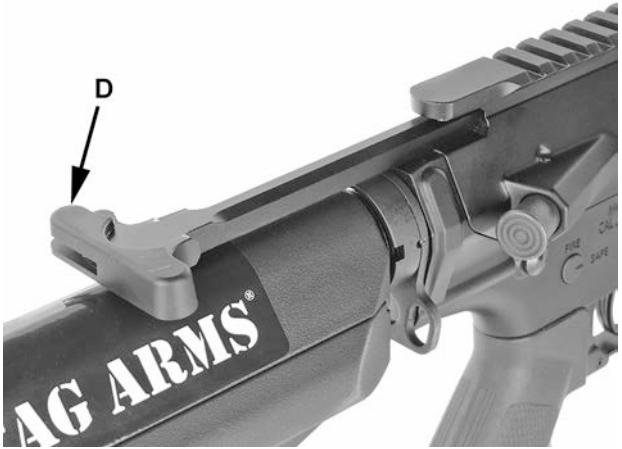

Figure 4
3. Unlock and pull the charging handle (D) all the way out and press in on the lower portion of the bolt catch (E). Release charging handle. This locks the bolt in the open position. Push charging handle back in. See figure 4 and 5.